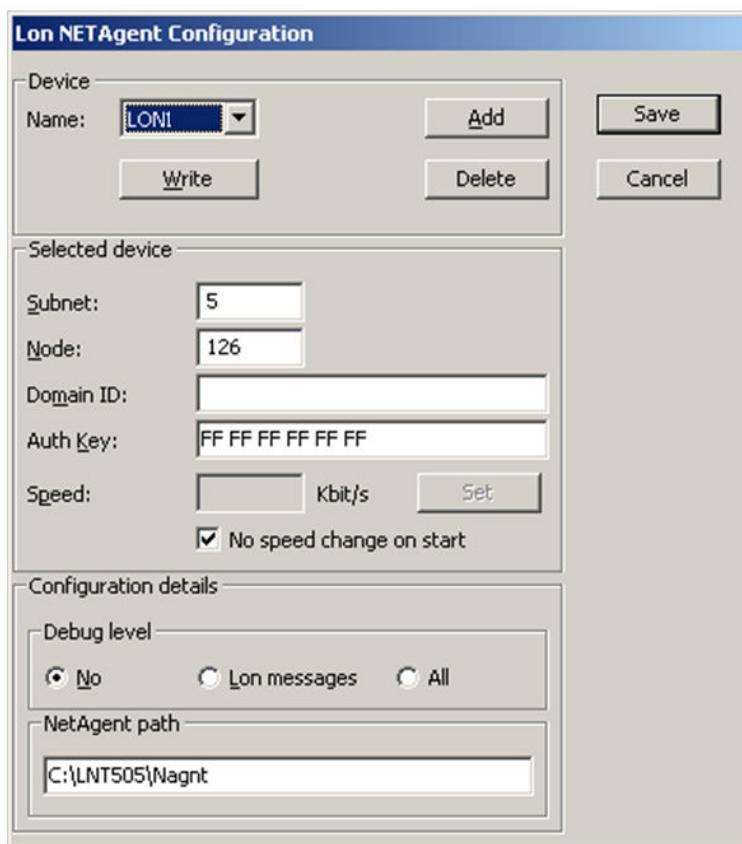

Figure 11: Lon NETAgent Configuration dialog
2. Define the configurations in the Lon NETAgent configuration dialog as shown in Figure 11.